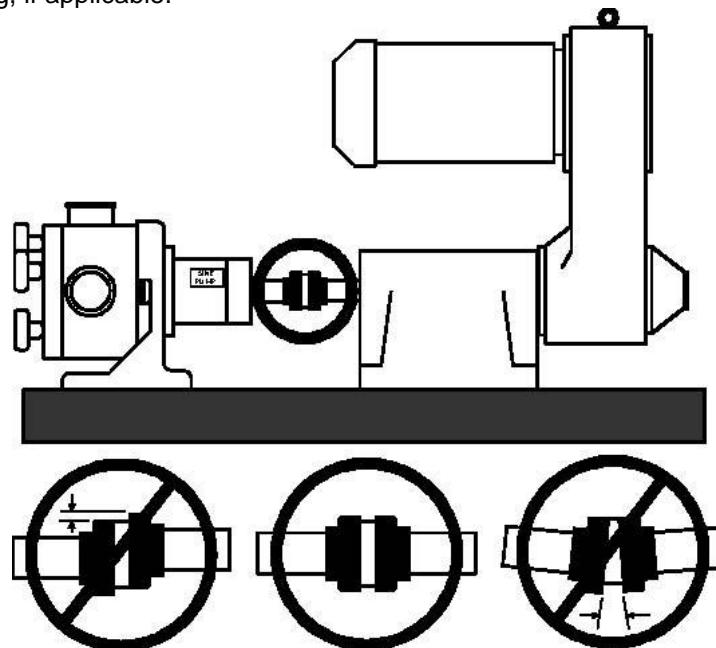

Figure 1 – Coupling Alignment
1. Check the coupling alignment between the drive and the pump. This should be done only after the pump, drive and base have been fully anchored. Refer to Figure 1 and the alignment sheet supplied with the coupling, if applicable.